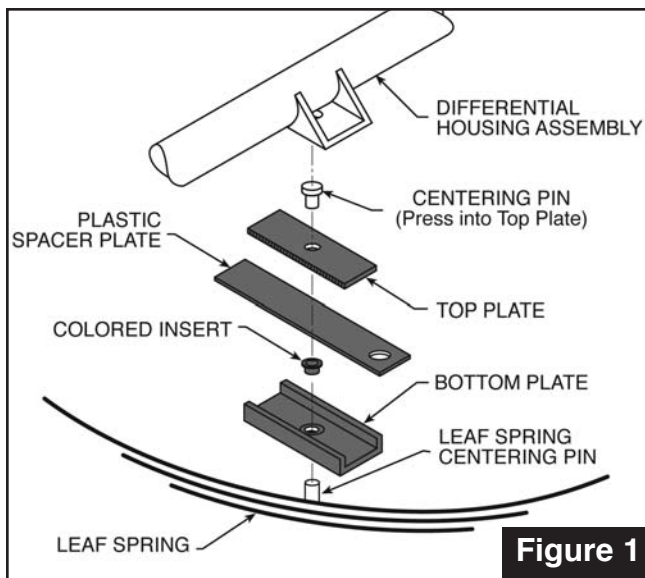

Figure 1
- For those vehicles where the leaf spring is below the differential housing assembly, refer to *Figure 1*.